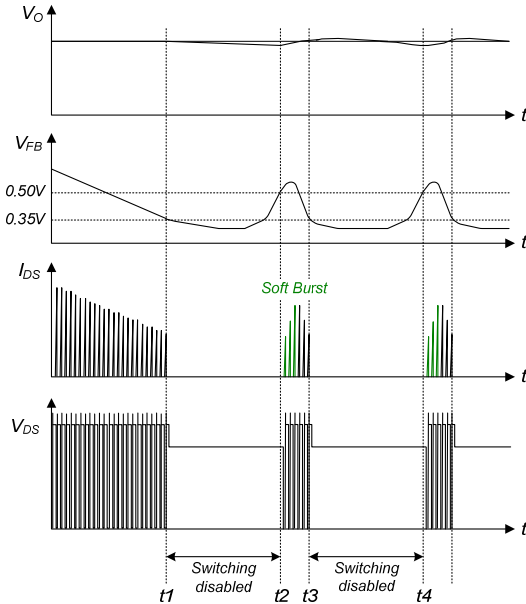

**Figure 22. Output-Short Protection**
**4.3. Output-Short Protection (OSP):** If the output is shorted, steep current with extremely high di/dt can flow through the SenseFET during the minimum turn-on time. Such a steep current brings high-voltage stress on the drain of the SenseFET when turned off. To protect the device from this abnormal condition, OSP is included. It is comprised of detecting  $V_{FB}$  and SenseFET turn-on time. When the  $V_{FB}$  is higher than 2.0V and the SenseFET turn-on time is lower than  $1.0\mu s$ , this condition is recognized as an abnormal error and PWM switching shuts down until  $V_{CC}$  reaches  $V_{START}$  again. An abnormal condition output short is shown in Figure 22.